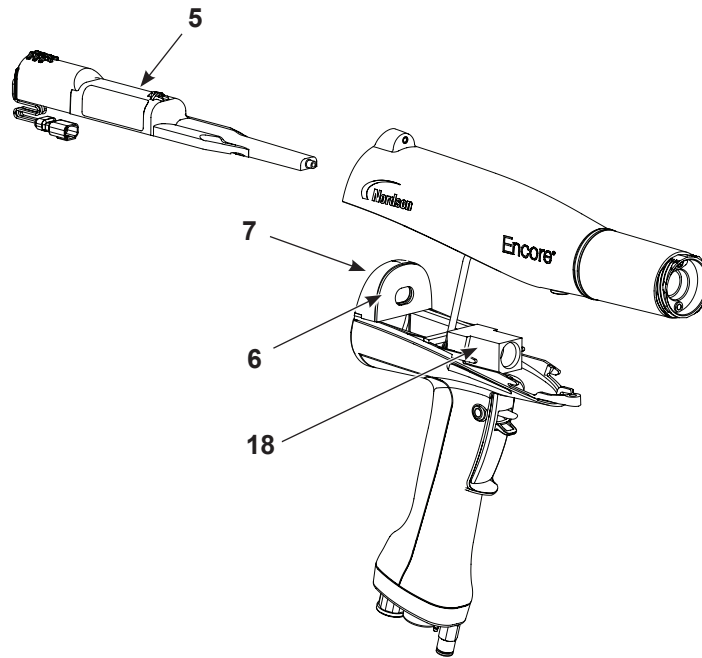
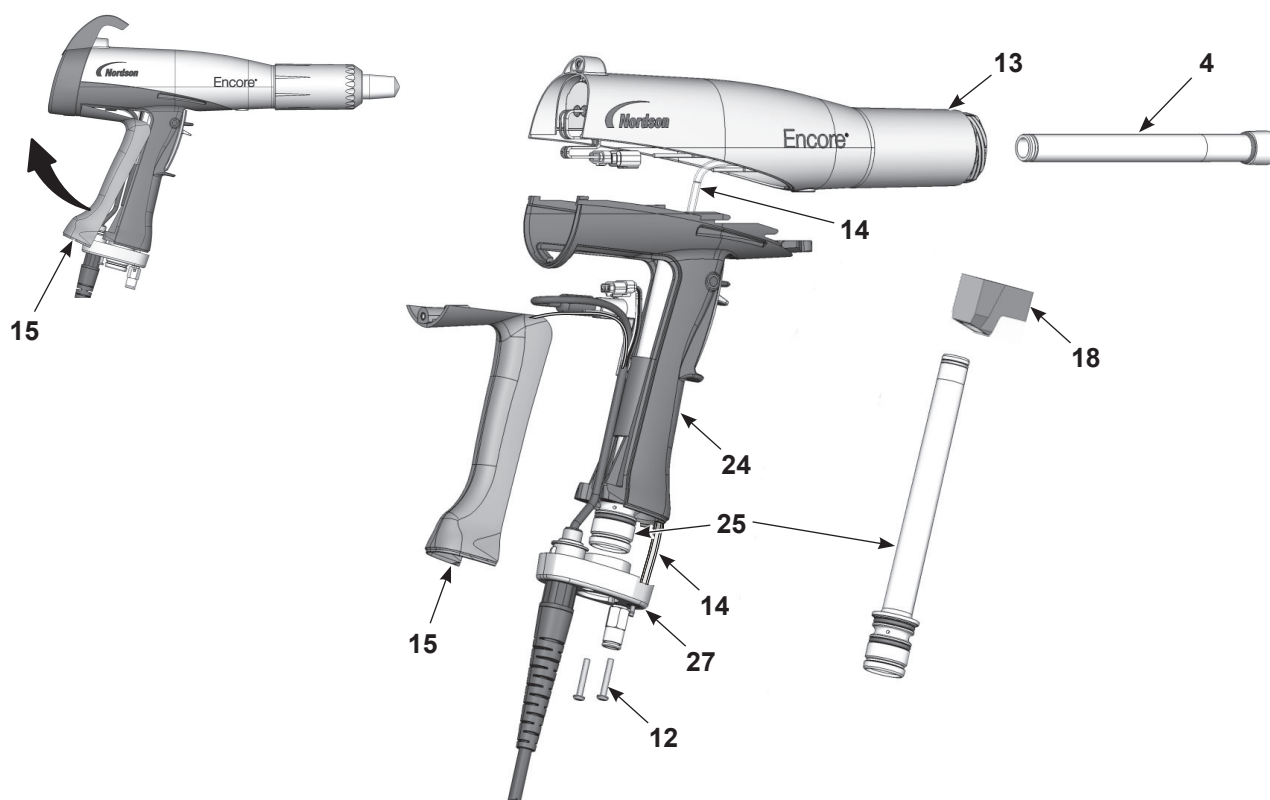

Figure 14 Removing the Power Supply from the Gun Body
Figure 15 Powder Path Replacement
1. See Figure 14. Slide the power supply (5) out of the gun body.
2. Check the gasket (6) on the back of the bulkhead (7). Replace it if it is damaged. The gasket is attached to the bulkhead with pressure-sensitive adhesive.
1. See Figure 15. Remove the elbow (18) from the inlet tube (25).
2. Remove the two M3 x 20 screws (12) from the handle base (27). Pull the base away from the handle, swing the bottom of the ground pad (15) up and away from the handle, then remove it. Leave the ground wire connected to the ground pad.
3. Push the inlet tube (25) up and out of the base, then move the base out of the way and pull the inlet tube out of the handle.
4. Push the outlet tube (4) out of the front of the gun body (13).
1. See Figure 15. Install the outlet tube (4) into the gun body (13), with the end of the tube flush with the end of the gun.
2. Install the inlet tube (25) into the handle (24), then install the end of the tube into the handle base (27).
3. Push the handle base close to the handle, then hook the top end of the ground pad (15) into the body and rotate it onto the handle. Make sure the cable wires are not pinched or trapped during re-assembly.
4. Install the handle base onto the handle and ground pad and secure it with the two M3 x 20 screws (12).
5. See Figure 14. Install the elbow onto the inlet tube, with the end oriented toward the front of the gun as shown.
1. See Figure 14. Align the gun body with the handle and slide them together, engaging the internal ribs of the gun body with the handle tabs.